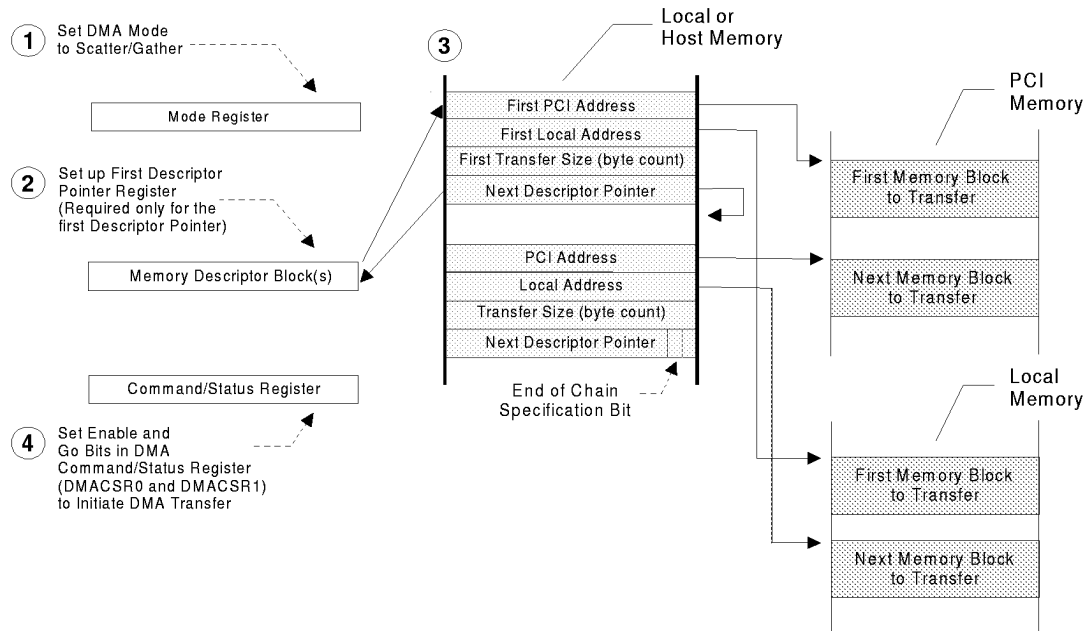

Figure 3-16. Scatter/Gather DMA Mode Descriptor Initialization [PCI SAC/DAC PCI Address (DMADAC0, DMADAC1) Register Dependent]
- DMADAC0 and/or DMADAC1 contain(s) a non-zero value. DMAMODE0[18] and/or DMAMODE1[18] is set to 0. The PCI 9054 performs a Single Address Cycle (SAC) four-Lword descriptor block load from PCI memory and DMA transfer with DAC on the PCI Bus. (Refer to Figure 3-16.)